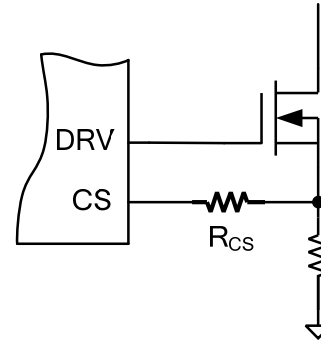

Figure 7: External Resistor for Sampling Time Customization
The FB sampling time is also customizable with different resistor values connected to CS (see Figure 7). Please refer to EC table for details.
The maximum switching frequency should be limited by the sampling point. Figure 7 and EC table show the relationship of  $R_{CS}$  and the sampling point. The secondary on time must be longer than the maximum  $T_{FBS-Max}$ . Calculate  $T_{S\_ON}$  with Equation (15):